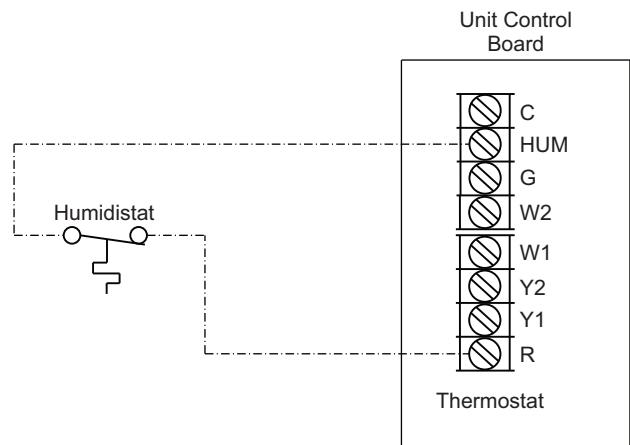

Fig. 56 — Humidistat Connections to UCB
3. Connect one of the leads from the 2-conductor cable to the HUM terminal on the UCB (Unit Control Board). Connect the other lead to the R terminal on the UCB. See Fig. 56.